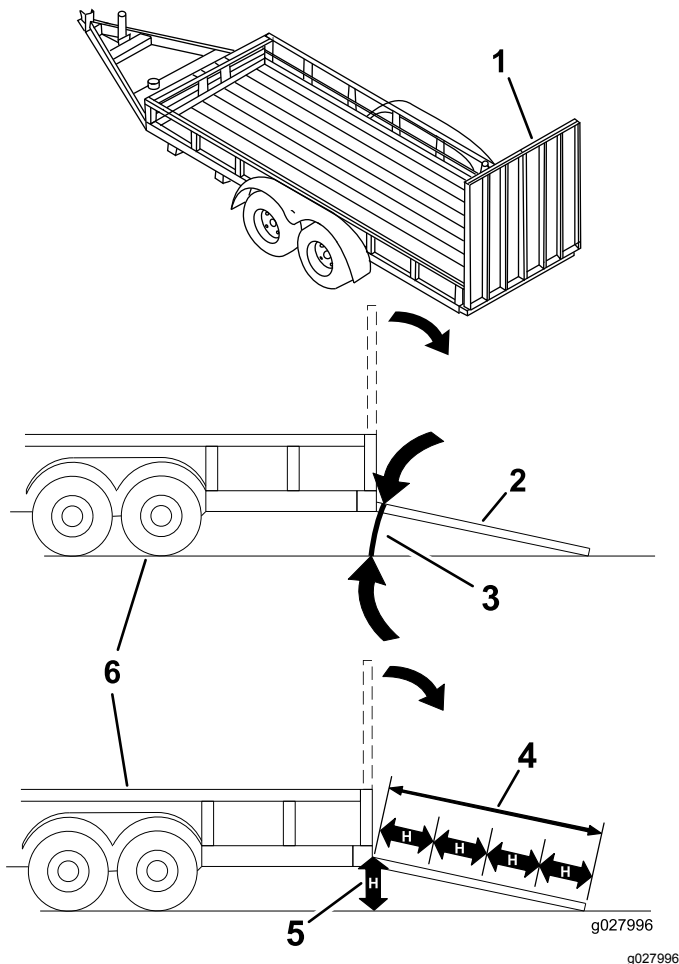

Figure 17
Loading a machine onto a trailer or truck increases the possibility of tip-over and could cause serious injury or death (Figure 17).
3. Lower the ramp (Figure 17).
1. Lower the ramp (Figure 17).